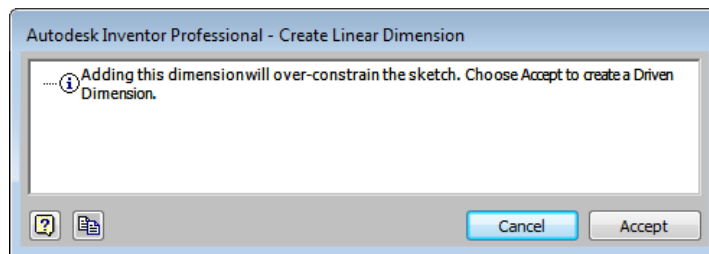
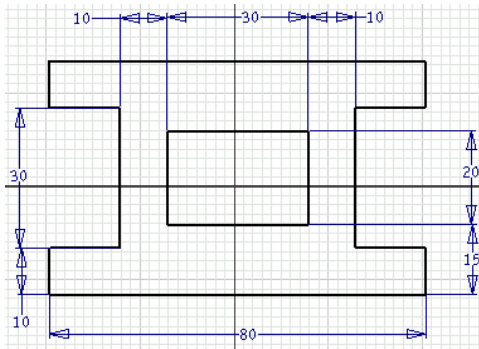

Figure 3-50 The Autodesk Inventor Professional message box
Figure 3-51 Sketch after adding dimensions
- Add the required constraints and dimensions to complete the sketch, refer to Figure 3-51.
With this step, you have applied all the required constraints and dimensions to the sketch. Now the sketch is ready to be converted into a feature. If you try to add more constraints or dimensions to this sketch, the **Autodesk Inventor Professional - Create Linear Dimension** error message box will appear, informing that adding this dimension will over-constrain the sketch, see Figure 3-50. If you still want this dimension to be displayed, choose the **Accept** button from this message box; the dimension will be added as a driven dimension. A driven dimension is placed inside parentheses and is not used during the manufacturing process. This dimension is used only for reference. Note that you cannot edit the value of a driven dimension. The sketch after applying all the dimensions and constraints should look similar to the one shown in Figure 3-51.